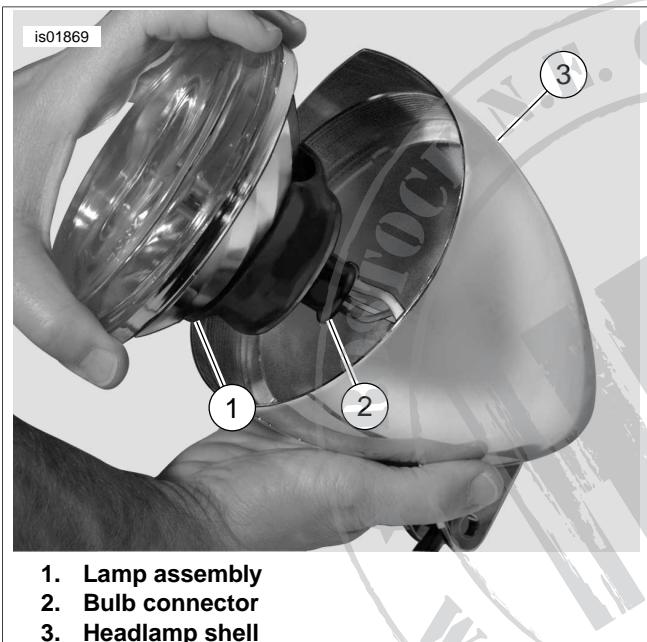

Figure 16. Chrome Trim Ring (two-sided tape shown)
5. See Figure 16. Place fingers on two-sided tape and remove chrome trim ring (rotate counterclockwise) and O-ring.
6. See Figure 16. Install chrome trim ring (rotate clockwise) and rubber O-ring. Remove strips of two-sided tape from ring if used. Use care when installing ring to ensure proper threading into headlamp shell.